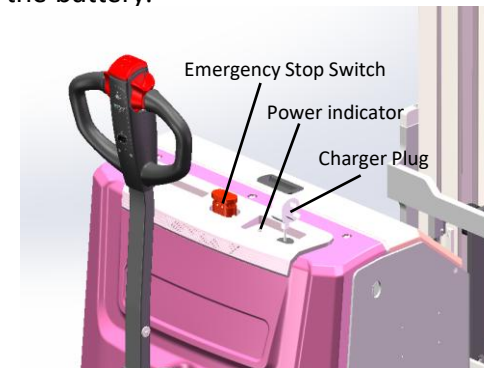

Figure 5-1
5.1.2 Check whether the battery is charged. The method is shown in Figure 5-1. Pull the main power switch outward to turn on the main power, then turn on the ignition lock on the handle. Check the energy meter on the vehicle's dashboard. If the segment at the "0" end lights up, it indicates that the battery has no power and needs to be charged. It is strictly prohibited to use the vehicle when the battery is out of power, as this will significantly reduce the battery's service life and may even damage the battery.
5.2.1 Note: This vehicle is equipped with a side-magnetic brake at the drive wheel motor output shaft end, as shown in Figure 5-1. Pull the main power switch outward to turn on the main power. Turn the key switch on. When the travel adjuster is pushed, the side-magnetic brake is energized and releases, allowing the stacker to be powered and operate. In all other states, the stacker is powered off and braked. Ensure that the stacker is in a stationary state and the side-magnetic brake is in the locked state before lifting the load. The vehicle must not travel while lifting the load. During transport and stacking, ensure the load's center of gravity is within the specified load center position, and the load weight is less than the weight indicated by the load curve. During stacking, only slow forward and reverse movement is permitted; turning operations are prohibited.
Pull the main power switch outward as shown in Figure 5-1 to turn on the main power. Turn the key switch on. Drive the vehicle near the load pile (with the fork tips approximately 300mm from the load pile). Press the lowering button to adjust the fork height to a suitable position. Slowly insert the forks as deeply as possible into the pallet. Press the lifting button to raise the forks until they are 200-300mm from the ground. Drive the vehicle to the rack location and slowly stop when the fork tips are about 300mm from the rack. Press the lifting button to raise the forks to the appropriate rack height (approximately 100mm above the rack surface). Slowly move the load to the precise position on the rack. Press the lowering button to carefully place the load on the rack and disengage the forks from the load. Slowly drive the vehicle to withdraw the forks from the pallet (until the fork tips are about 300mm from the rack). Lower the forks to about 100mm from the ground. Drive the vehicle away from the rack. During travel, pay attention to obstacles in all directions. Reduce speed when turning.
Pull the main power switch outward as shown in Figure 5-1 to turn on the main power. Turn the key switch on. Drive the vehicle near the rack (with the fork tips approximately 300mm from the rack). Press the lifting button to adjust the fork height to the appropriate rack position. Slowly insert the forks as deeply as possible into the pallet on the rack. Press the lifting button to lift the load until the pallet bottom is about 100mm above the rack. Slowly drive the vehicle to withdraw the load from the rack (until the fork tips are about 300mm from the rack). Press the lowering button to lower the forks until they are 200-300mm from the ground. Drive the vehicle away from the rack to the required location, then slowly bring the vehicle to a stable stop. Press the lowering button to place the load down, ensuring the forks completely disengage from the load. Slowly withdraw the forks from the pallet.